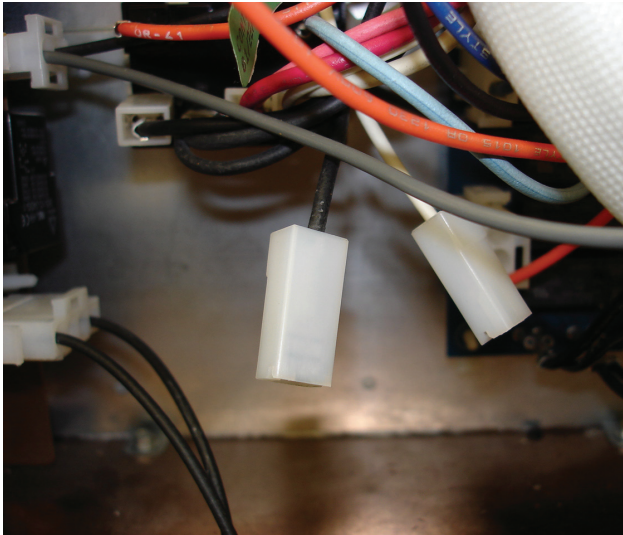

Figure 8
13. Install terminal insulators on black and white wires removed from monitor switch (Figure 8).